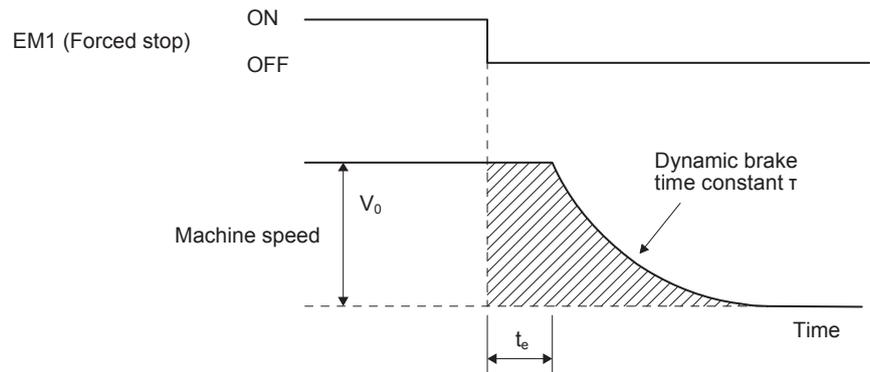

Fig. 10.3 Dynamic brake operation diagram
Fig. 10.3 shows the pattern in which the servo motor comes to a stop when the dynamic brake is operated. Use equation 10.2 to calculate an approximate coasting distance to a stop. The dynamic brake time constant  $\tau$  varies with the servo motor and machine operation speeds. (Refer to (2)(a), (b) of this section.)